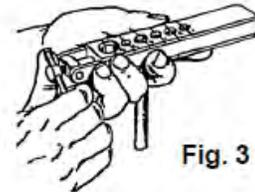

Fig. 3
6. Advance the clamp screw against the end segment and tighten firmly. (See Fig. 3)